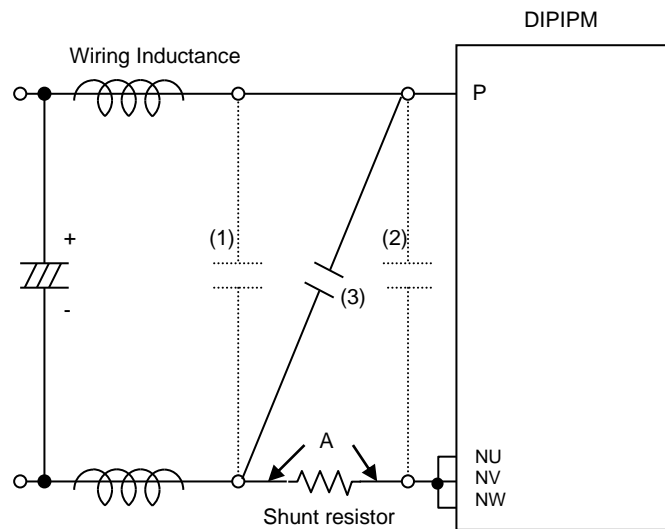

Fig.3-1-8 Recommended snubber circuit location
There are two positions ((1)or(2)) to mount a snubber capacitor as shown in Fig.3-1-8. Snubber capacitor should be installed in the position (2) so as to suppress surge voltage effectively. However, the charging and discharging currents generated by the wiring inductance and the snubber capacitor will flow through the shunt resistor, which might cause erroneous protection if this current is large enough.